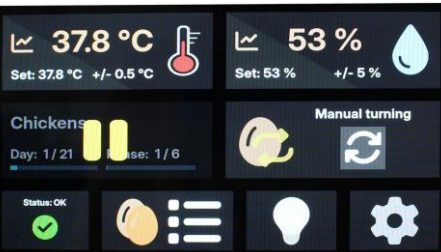

fig. 6
- ➔ The menu opens (fig. 6) for manually moving the turning mechanism.